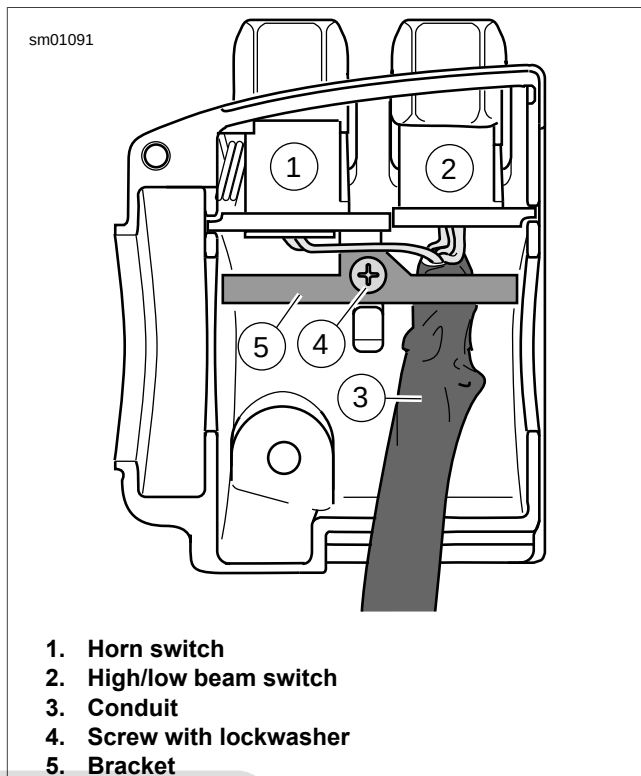
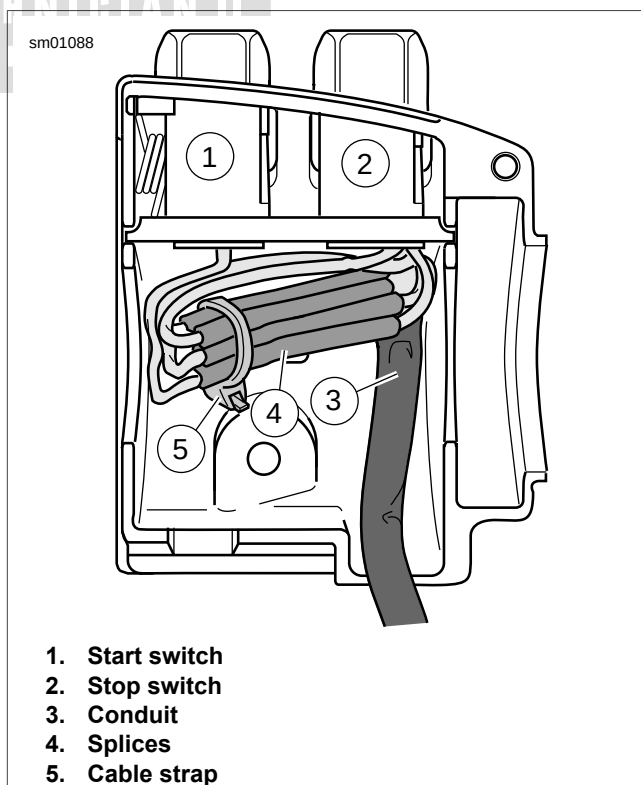

Figure 7-57. Upper Housing Without Splices
Figure 7-58. Upper Housing With Splices
1. See Figure 7-57. From inside the switch housing, remove the screw with lockwasher (4) to release the bracket (5). Remove the bracket and switch assembly from the housing.
2. Move cable conduit (3) from beneath wing of bracket. Cut wires 6.4 mm (0.25 in) from old switches (1, 2). Discard old switch and bracket assembly.
3. Slide conduit forward over cut ends of switch wires and cut off 12.7 mm (0.5 in) of conduit (3) material. Push conduit back to access switch wires.
4. See Figure 7-58. Separate **new** engine stop switch (2) and engine start switch (1) wires into two bundles.
6. See Figure 7-58. Loop switch wires and bundle splices.
7. See Figure 7-57. Route wires downstream of splices beneath wing on engine stop switch side of bracket.
8. See Figure 7-58. Install a **new** 177.8 mm (7.0 in) cable strap (5) beneath wing on engine start switch side (1) of bracket and capture wire splices (4).
10. See Figure 7-57. Install screw and lockwasher (4) to secure bracket (5) inside housing. Verify that wing on engine stop switch (2) side of bracket captures edge of conduit (3) as shown.